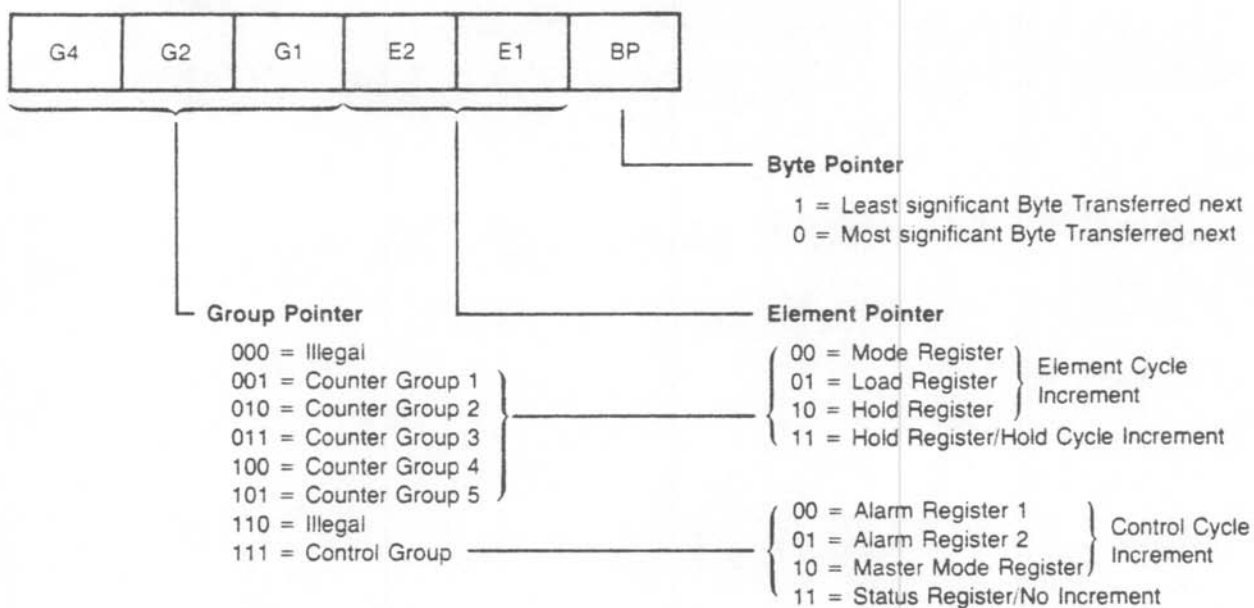
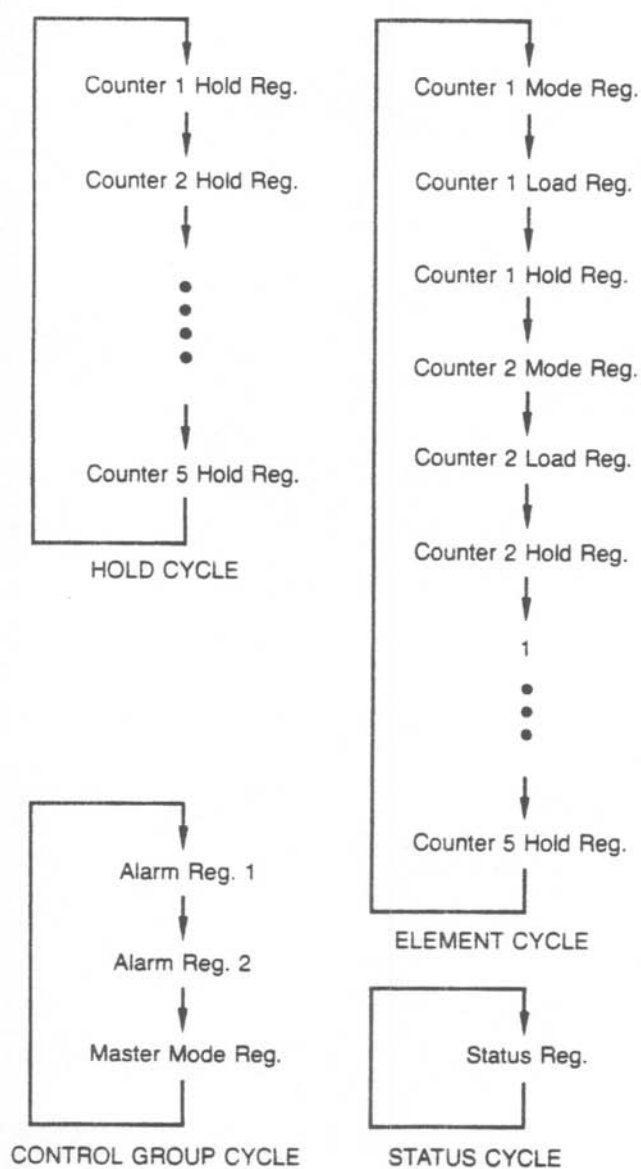

Figure 8. Data Pointer Register.
Figure 10. Data Pointer Sequencing.
The Data Pointer consists of a 3-bit Group Pointer, a 2-bit Element Pointer and a 1-bit Byte Pointer, depicted in Figure 8. The Byte Pointer bit indicates which byte of a 16-bit register is to be transferred on the next access through the data port. Whenever the Data Pointer is loaded, the Byte Pointer bit is set to one, indicating a least-significant byte is expected. The Byte Pointer toggles following each 8-bit data transfer with an 8-bit data bus ($MM13 = 0$), or it always remains set with the 16-bit data bus option ($MM13 = 1$). The Element and Group pointers are used to select which internal register is to be accessible through the Data Port. Although the contents of the Element and Group Pointer in the Data Pointer register cannot be read by the host processor, the Byte Pointer is available as a bit in the Status register.
To permit the host processor to rapidly access the various internal registers, automatic sequencing of the Data Pointer is provided. Sequencing is enabled by clearing Master Mode bit 14 ($MM14$) to zero. As shown in Figure 10, several types of sequencing are available depending on the data bus width being used and the initial Data Pointer value entered by command.
1. Using Figures 8 and 9, select the appropriate Data Pointer Group and Element codes for the register to be accessed. Note that two codes are provided for the Hold registers, to accommodate both the Hold Cycle and Element Cycle auto-sequencing modes shown in Figure 10. If auto-sequencing is disabled, either Hold code may be used.
2. Using the "Writing to the Command Register" procedure given above, write the appropriate "Load Data Pointer" command to the Command register. Note that the command summary in Figure 21 has the Group field and Element field switched from the format given in Figure 8.
The Data Pointer register is now set. Setting the Data Pointer register automatically sets the Byte Pointer to 1, indicating a least significant byte is expected for 8-bit data bus interfacing. If Master Mode register bit MM14 = 0, the Data Pointer will automatically sequence through one of the cycles shown in Figure 10 after reading or writing each register. For convenience, bit MM14 can be set or cleared by software command.